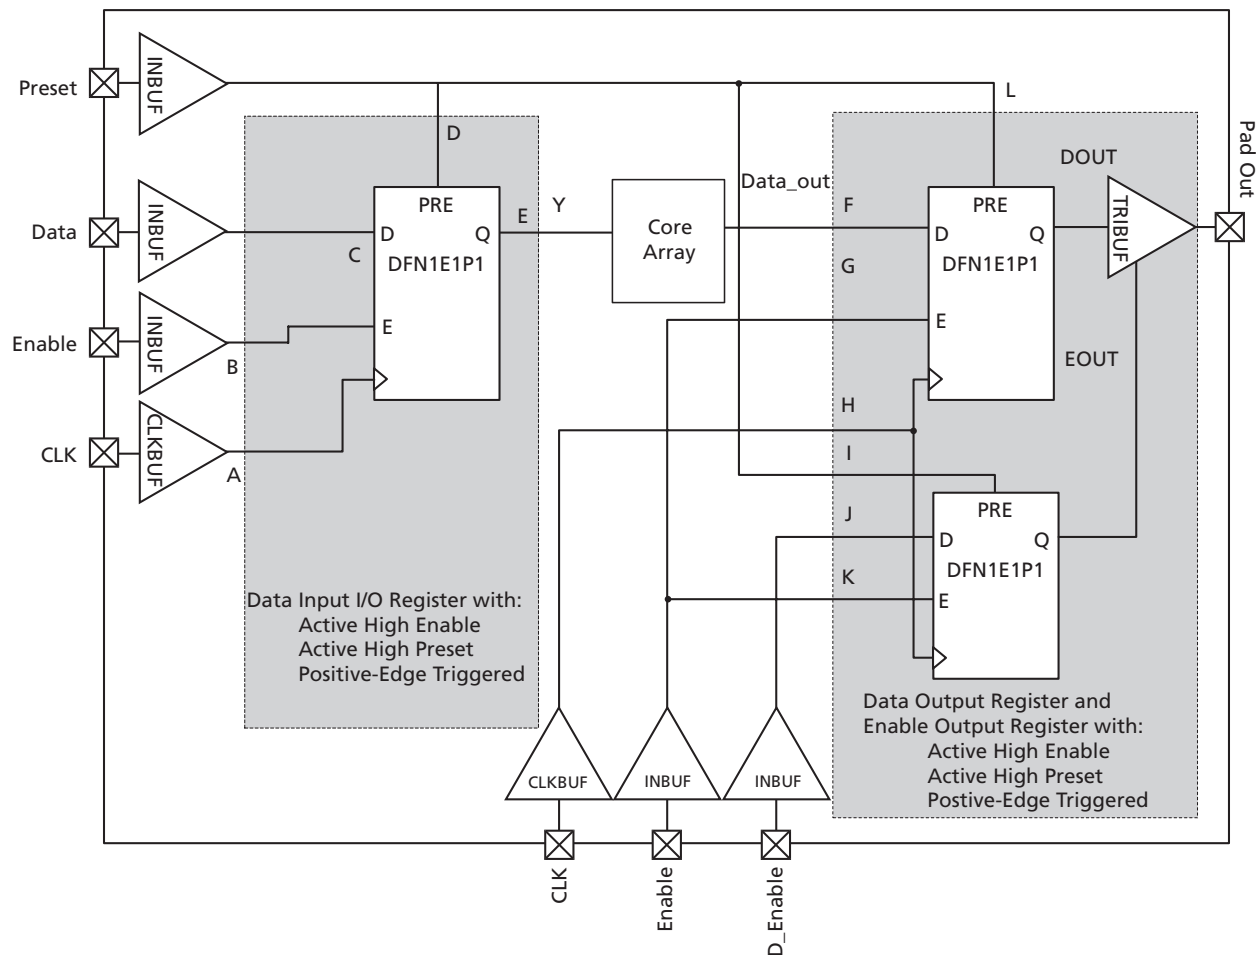

Figure 2-10 • Timing Model of Registered I/O Buffers with Synchronous Enable and Asynchronous Preset
* See Figure 2-10 on page 2-32 for more information.